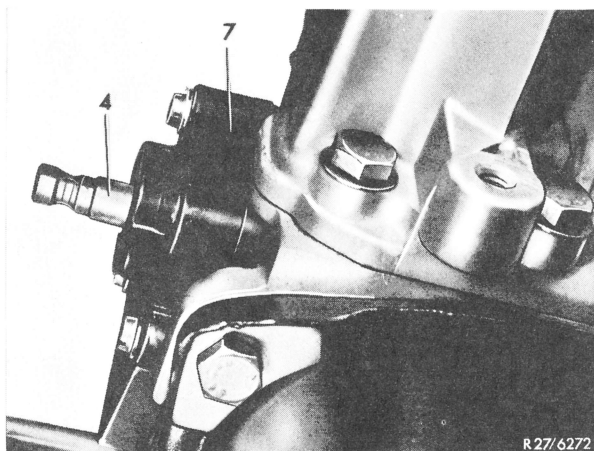

Fig. 1
- 3 Unscrew fastening screws of starter locking switch (7) (Fig. 1).
- 4 Remove starter locking switch (7) from shaft (4) (Fig. 1).